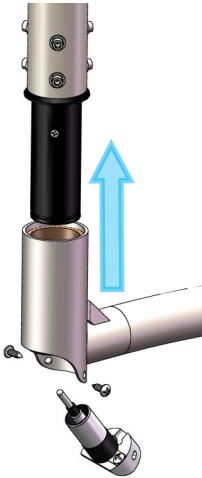

Figure 42.
4. Slide the Extension/Spring Arm assembly up and onto the ceiling mount down tube and hold it in place. Refer to Figures 42 and 43.